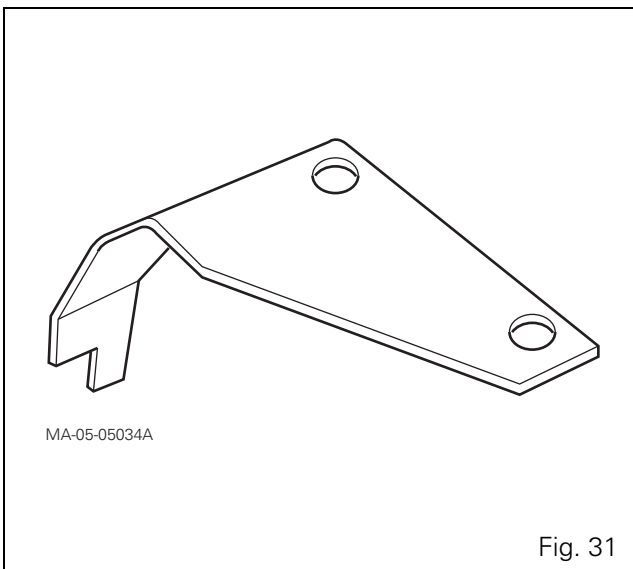

Fig. 31
- **3378054M1**: Adjustment gauge (Fig. 31)